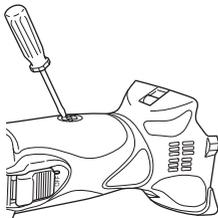

Fig. 15
- (2) Take out the carbon brush by first removing the brush cap and then hooking the protrusion of the carbon brush with a flat head screw driver, etc., as shown in Fig. 15.